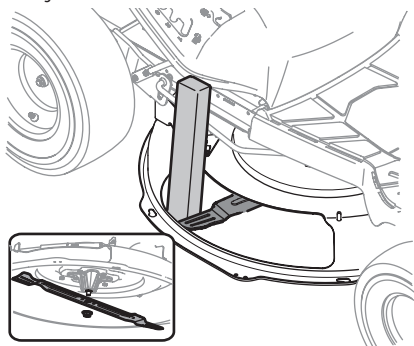

Figure 38
2. Using a block of wood at least 2" x 4" (51 mm x 102 mm), insert it into the deck opening and rotate the blade around until it wedges the wood between the deck opening and the cutting blade, as shown in Figure 38.
3. Remove the hex flange nut that secures the blade to the spindle assembly. See the inset of Figure 38.